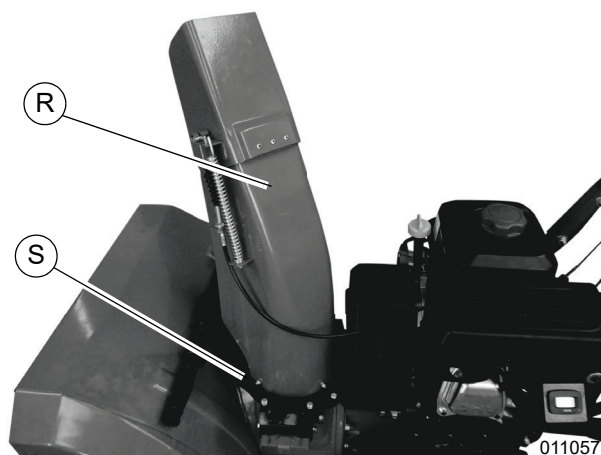

Figure 2-11. Chute Assembly
12. See Figure 2-11. Place chute assembly (R) onto gear plate assembly (S) and align mounting holes.